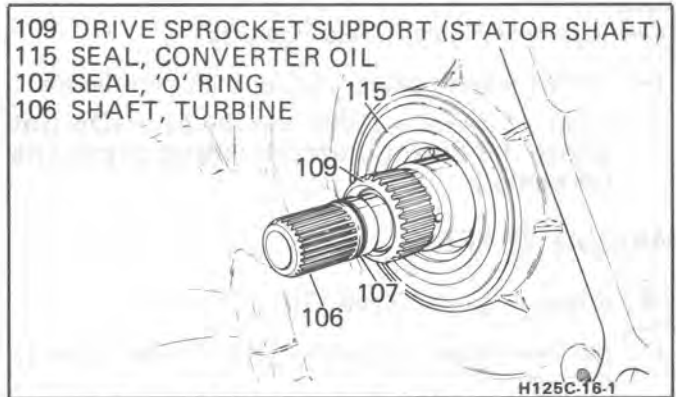

Figure 80 Turbine Shaft "O" Ring Seal
1. Thrust washer (123) onto sprocket (122) and retain with petrolatum
2. Thrust washer (104) onto sprocket (103) and retain with petrolatum
3. Drive (103) and driven (122) sprockets into link assembly (101) - colored guide link up
4. Link assembly (101) and sprockets (103) and (122) into case (112)
5. New "O" ring onto the turbine shaft from the converter side of case (Figure 80)
6. Thrust bearing (121) onto sprocket (122)